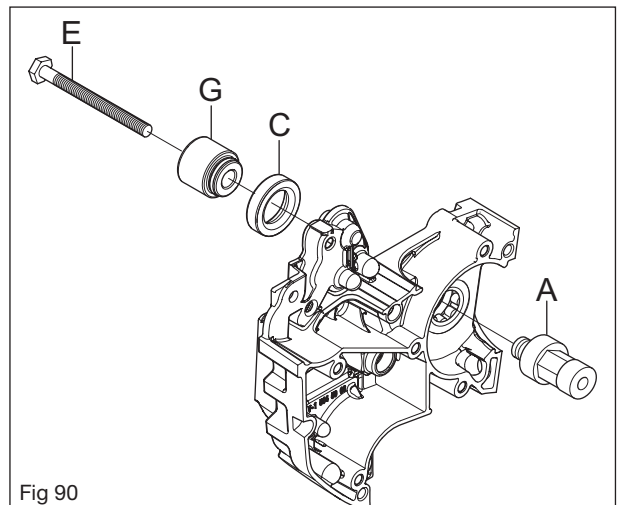

Fig 90
Use the 576 66 64-01 (A), 576 95 56-01 (G) and 725 33 80-51 (E) tools to assemble the sealing ring (C). Fit the service tool as outlined in Figure 90. Tighten with a suitable socket spanner as far as possible.